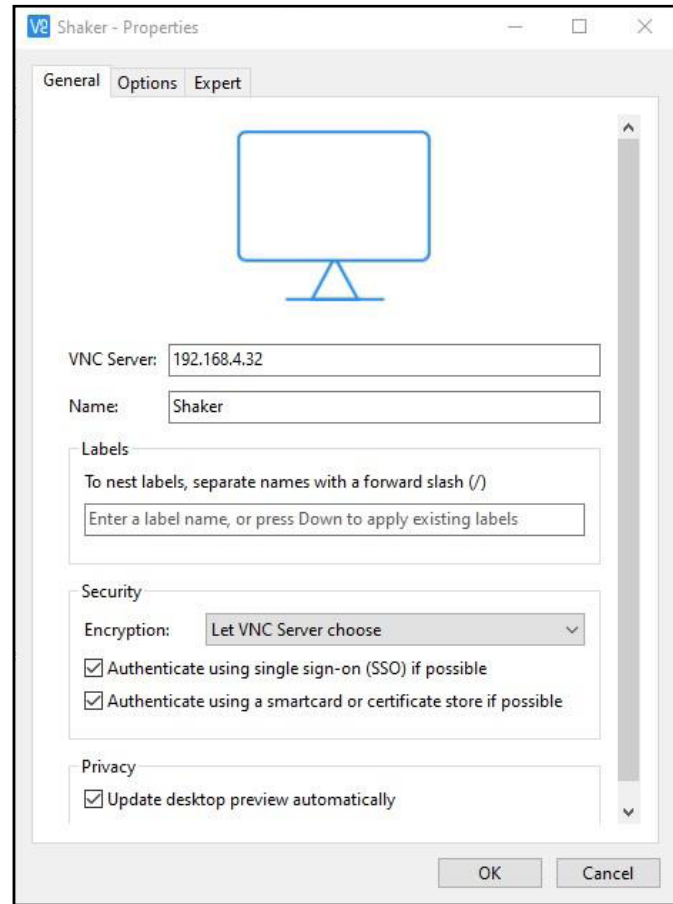

Figure 52
- Enter the shaker's IP address in the **VNC Server input** to complete the login setup (Figure 52).